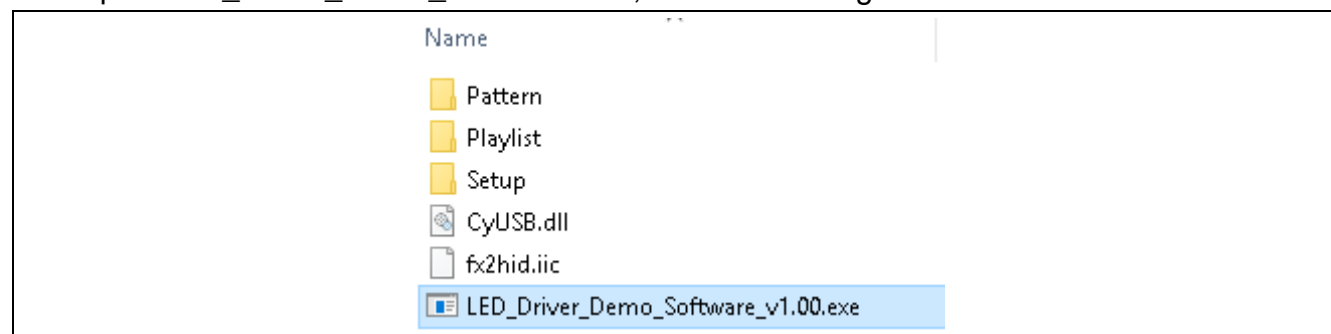

Figure 1-1 Open EXE Application
1. Open LED_Driver_Demo_Software.exe, as shown in Figure 1-1.